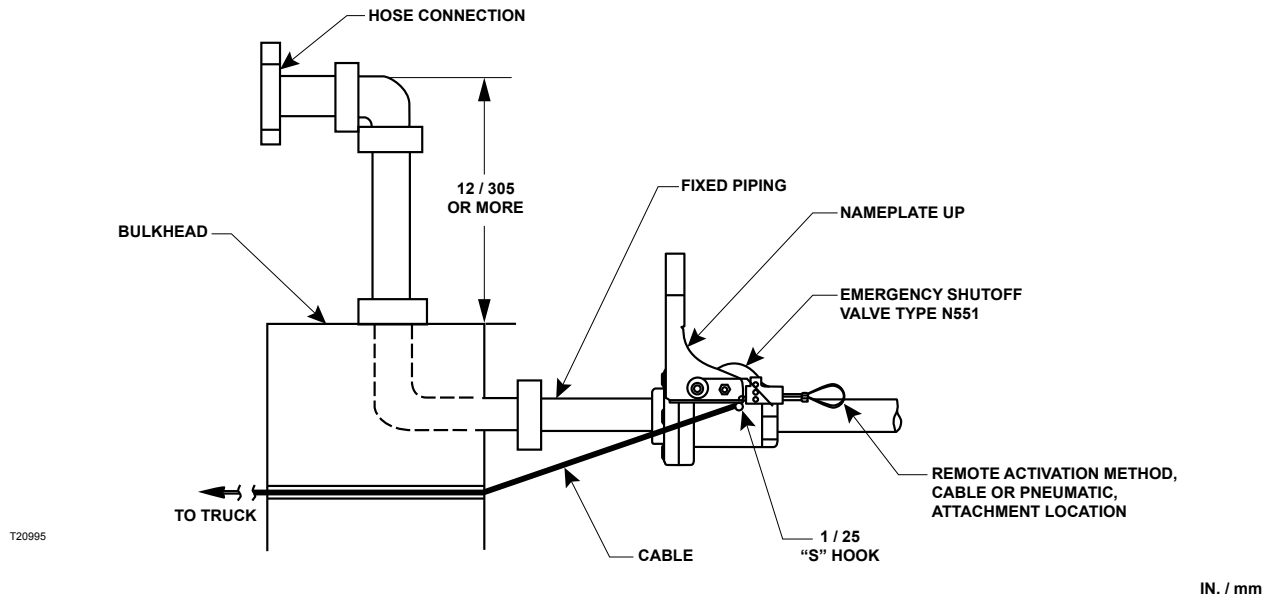

Figure 5. Motion Release Cable Installation (Optional)
1. Connect a suitable release cable such as stainless steel aircraft cable to a standard "S" hook. Attach the "S" hook to the Type N551 handle as shown in Figure 5.
2. The cable should run through the bulkhead just below and to the side of the pipe. The cable should be in line with the operating lever, refer to Figure 5.